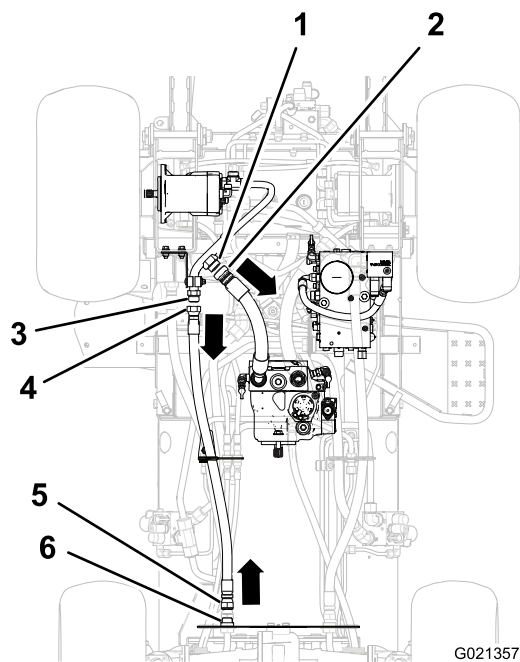

Figure 2
2. Remove the forward fitting of the hydraulic-pressure hose from the middle fitting of the divider tube, and allow the hydraulic fluid to drain from the hose and tube (Figure 2).
4. Remove the forward fitting of the rear-traction hose from the rear fitting of the divider tube (Figure 2).
5. Remove the rear fitting of the rear-traction hose from the bulkhead fitting in the bulkhead near the steering axle (Figure 2).